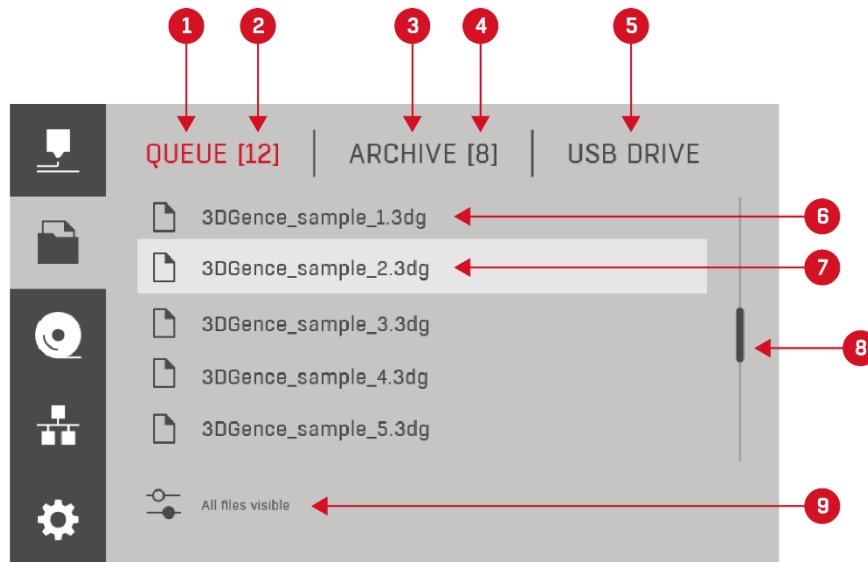

Fig. 29 Queue screen:
2. **Files button** – press to go to the screen with the list of files to be printed (section IV, subsection 1.1, Fig. 29).
When the “files” button or the multifunction button is used, the user is transferred to the list of queued print files. On this screen, there are three tabs on the top bar from which you can select a file for printing. The current user location is marked in red on the top bar (Fig. 29).